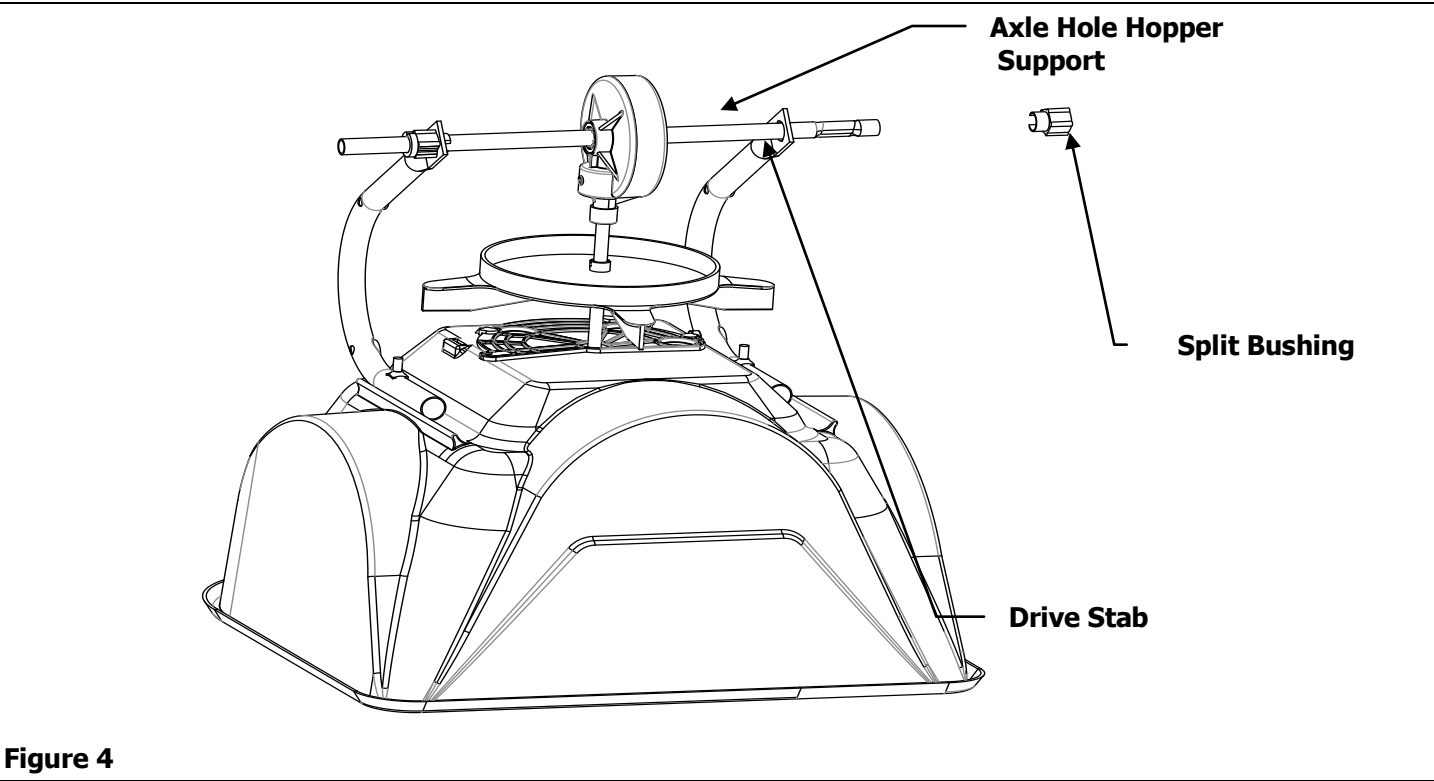

Figure 4
4. Push a Split Bushing on the Axle followed by a Split Bushing over the drive stab on the Axle. Then insert into the axle hole on the Hopper Support. Repeat on the other side of the Axle. See Figure 4.